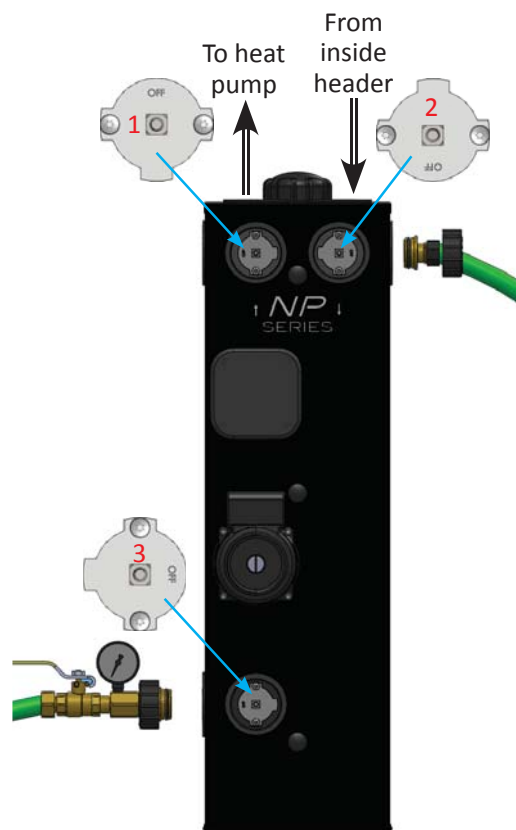

Figure 12: Purging air from the individual circuits
10. Rotate valve #1 so that OFF is in the 12-o'clock position. This prevents fluid from the loop from returning to the flow center tank (Figure 12).
11. Rotate valve #3 so that OFF is in the 3-o'clock position. This opens the valve to the tank, pump, and supply hose (Figure 12).
12. Direct the discharge hose into the top of the tank, or rotate valve #2 so that OFF is in the 3-o'clock position. Either of these actions directs the return fluid into the tank (Figure 12).